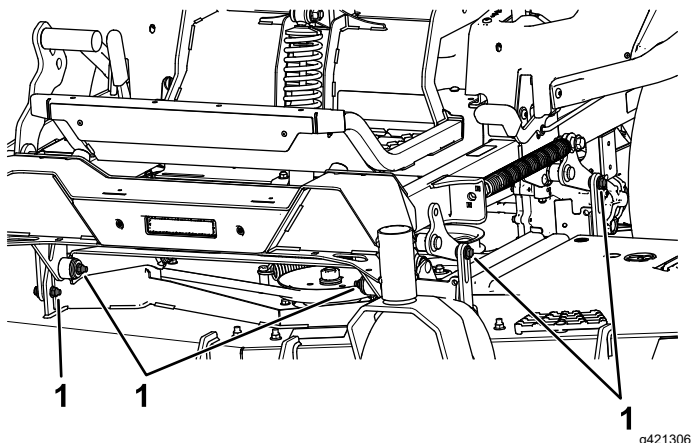

Figure 107
7. Remove and retain the bolts and nuts on both sides of the machine (Figure 107).